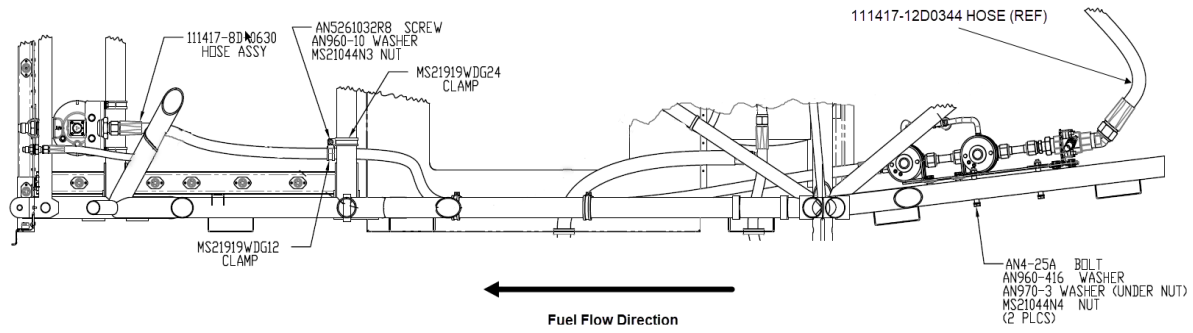

Figure 72-10
- b) Install new fuel pump plate assembly in the same location of the previous emergency fuel pump. See Figure 72-10.
- c) Reconnect outlet hose and install new hose 111417-8D-0630 from fuel filter to inlet of main pump. See Figure 72-10.